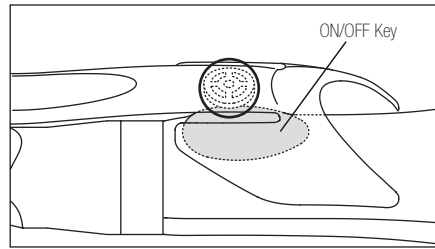

Fig. 7
- 2) Adjust the mounting location so that the convex portion beneath the lever (see circle in Fig. 7) comes into contact with the ON/OFF Key.